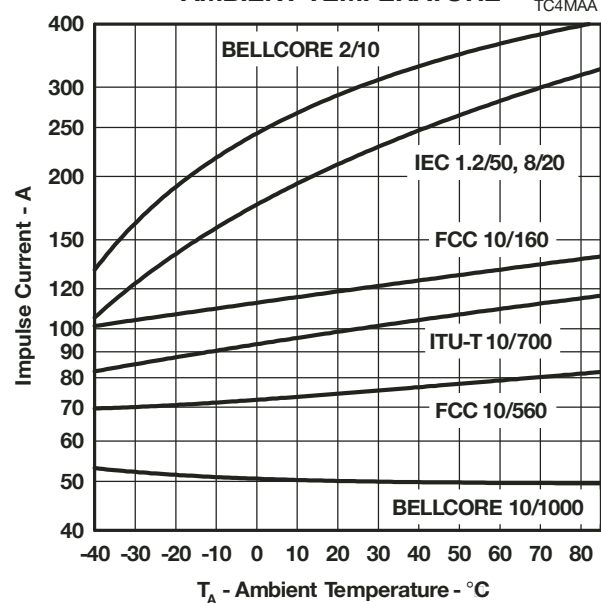

Figure 11.
4. See Applications Information and Figure 11 for current ratings at other temperatures.
For the FCC Part 68 10/560 waveform, the following values result. The minimum total circuit impedance is  $800/75 = 10.7 \Omega$  and the generator's fictive impedance is  $800/100 = 8 \Omega$ . This gives a minimum series resistance value of  $10.7 - 8 = 2.7 \Omega$ . After allowing for tolerance, a  $3 \Omega \pm 10\%$  resistor would be suitable. The 10/160 waveform needs a standard resistor value of  $5.6 \Omega$  per conductor. These would be R1a and R1b in Figure 15 and Figure 16. FCC Part 68 allows the equipment to be non-operational after the 10/160 (conductor to ground) and 10/560 (inter-conductor) impulses. The series resistor value may be reduced to zero to pass FCC Part 68 in a non-operational mode, e.g. Figure 14. For this type of design, the series fuse must open before the TISP4xxxM3 fails. For Figure 14, the maximum fuse  $i^2t$  is  $2.3 A^2s$ . In some cases, the equipment will require verification over a temperature range. By using the rated waveform values from Figure 11, the appropriate series resistor value can be calculated for ambient temperatures in the range of  $-40 \text{ }^\circ\text{C}$  to  $85 \text{ }^\circ\text{C}$ .